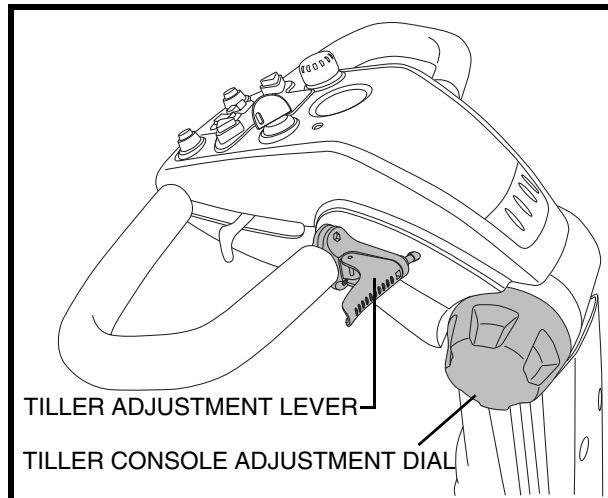

Figure 13. Tiller/Tiller Console Adjustment
1. Squeeze the tiller adjustment lever. See figure 13.
1. Loosen the adjustment dial (turn anticlockwise) and move the tiller console up or down to a comfortable riding position. See figure 13.